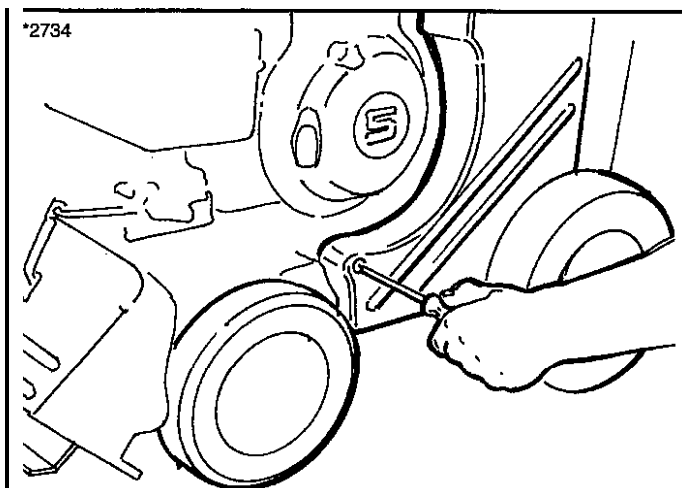

Figure 30. Remove Left Cover Panel Fasteners
5. Remove the left cover (Figure 30).